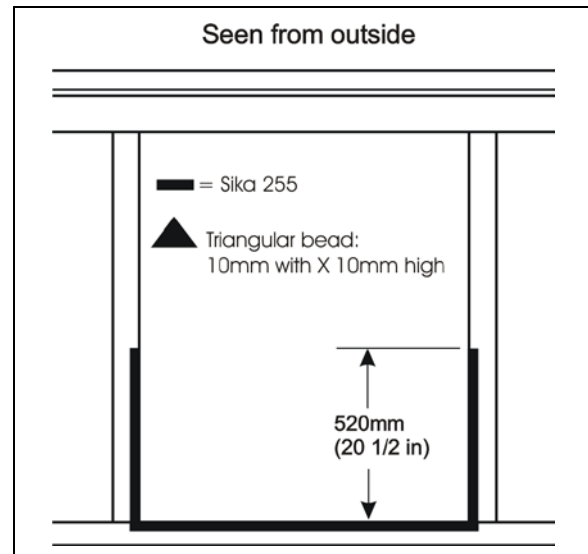

**FIGURE 64 : SIKa 255 APPLICATION**
5. Apply Sika 255 in the upper and lower frame corner as per FIGURE 64.